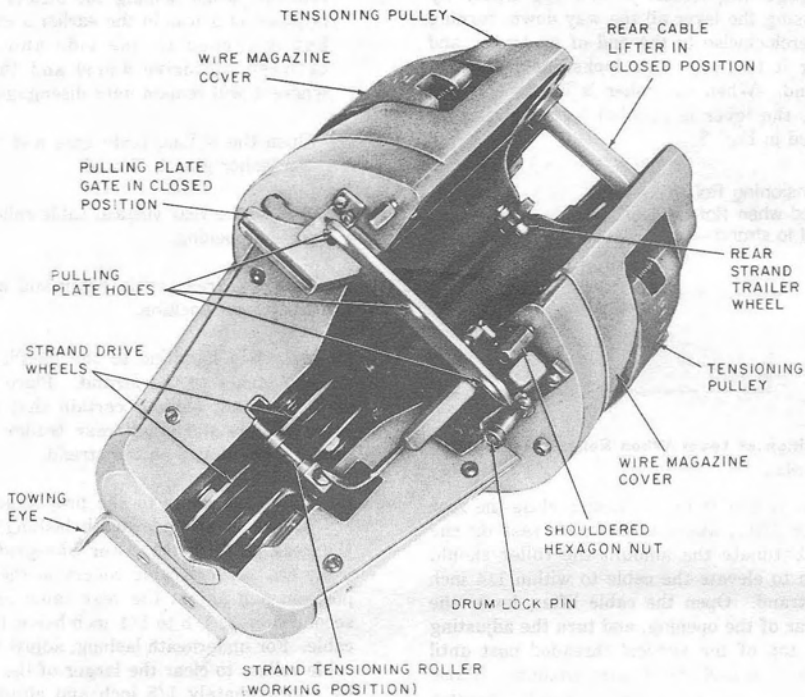

Fig. 6—Underside of Lasher
4.09 For all side pulls, both snap hooks should be attached on the side toward the pull. Attach one snap hook to the top towing eye and the other snap hook to the hole in the pulling gate. The top towing eyes and the holes in the pulling plate are illustrated in Fig. 6.